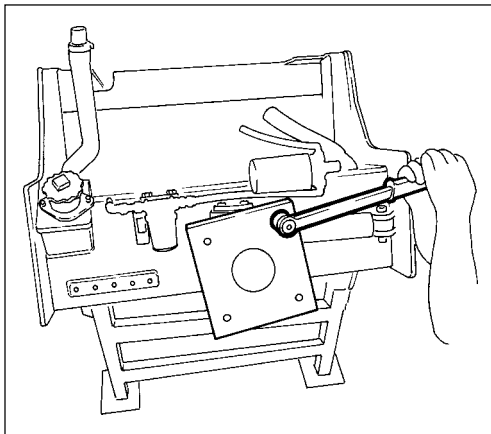

Fig. 4 Testing torque
5. This torque can be adjusted on nut, pos 9 in fig. 4. After this adjustment, reassemble and apply Loctite 243 to the 6 screws, pos 10.